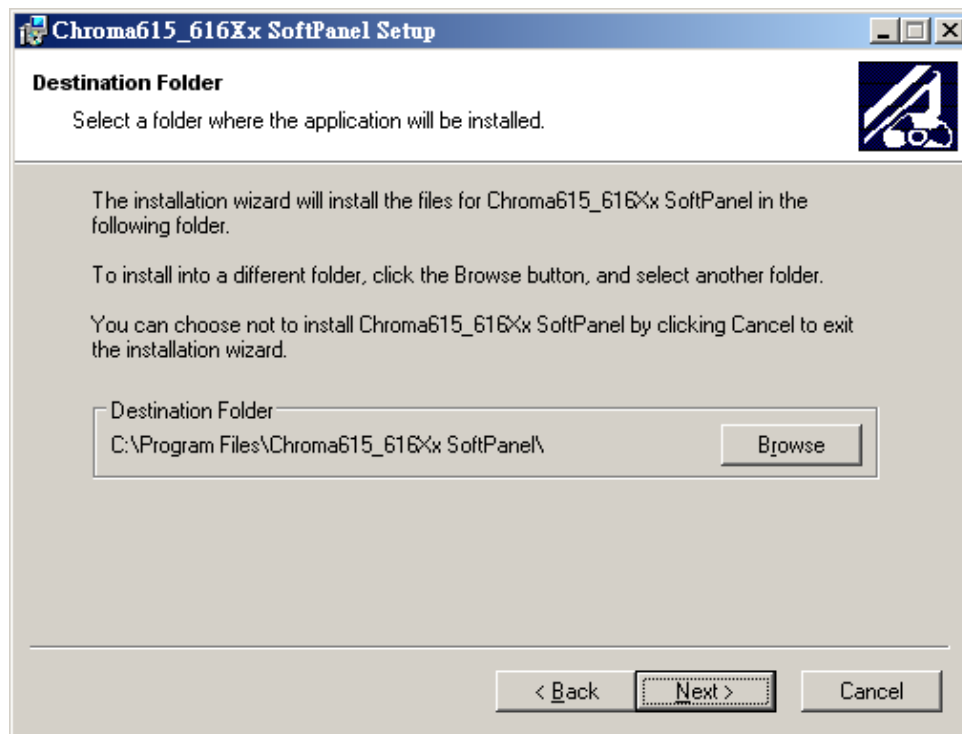

Figure 2-3 Chroma 615_616XX Soft Panel Installation Path Setup
Click **Next >**, the screen prompts Figure 2-3 to let the user setup the installation path.
- The program is default installed in C:\Program Files directory as Figure 2-3 shows. To change it, click **Browse** and specify the path for installation.